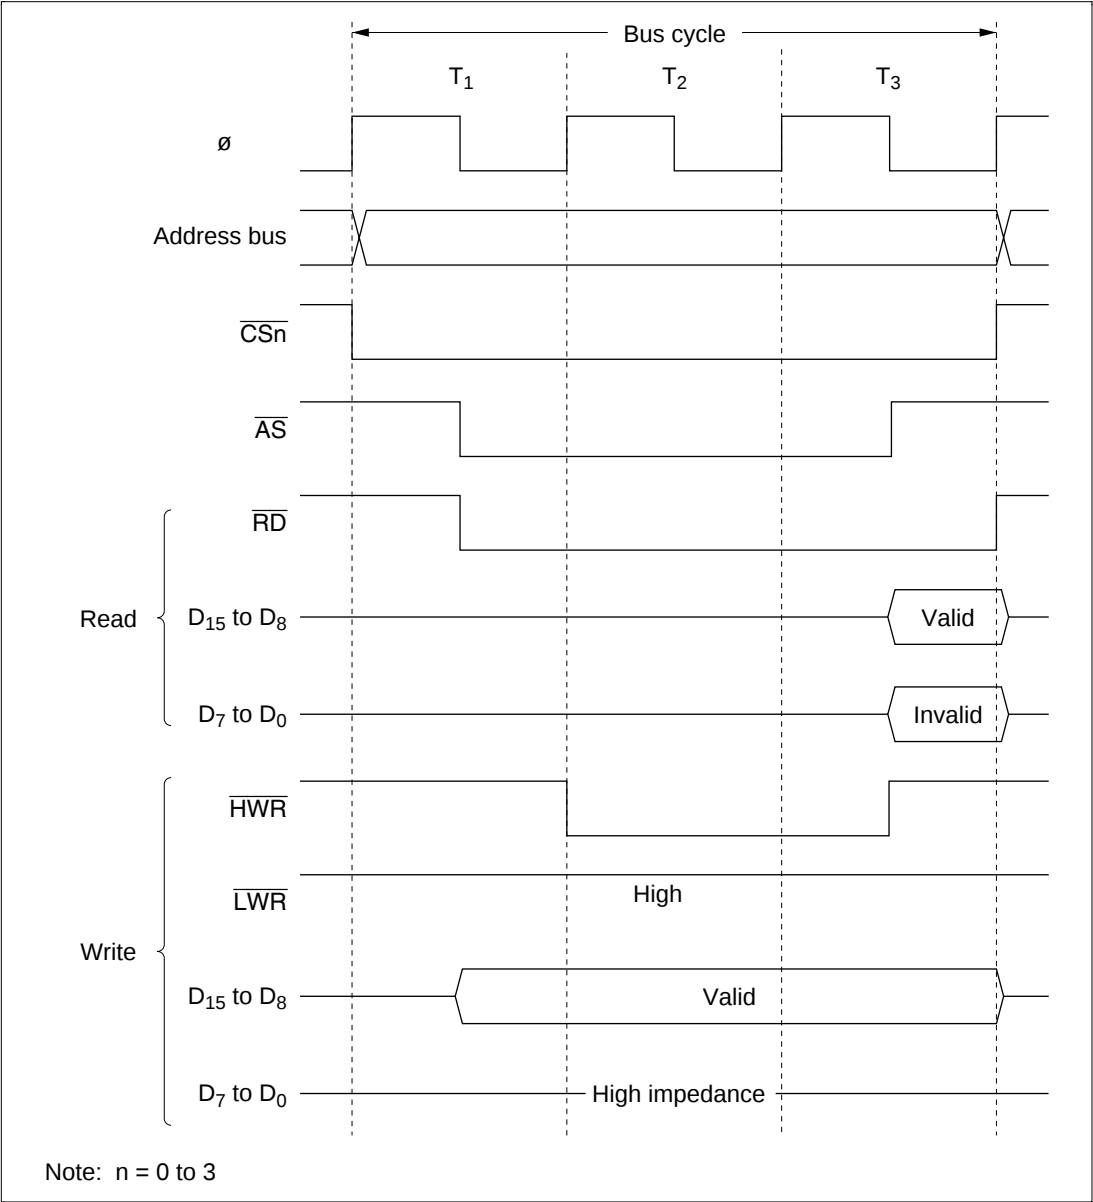

Figure 6-7 Bus Timing for 8-Bit 3-State Access Space
(2) 8-Bit 3-State Access Space: Figure 6-7 shows the bus timing for an 8-bit 3-state access space. When an 8-bit access space is accessed, the upper half (D_{15} to D_8) of the data bus is used.